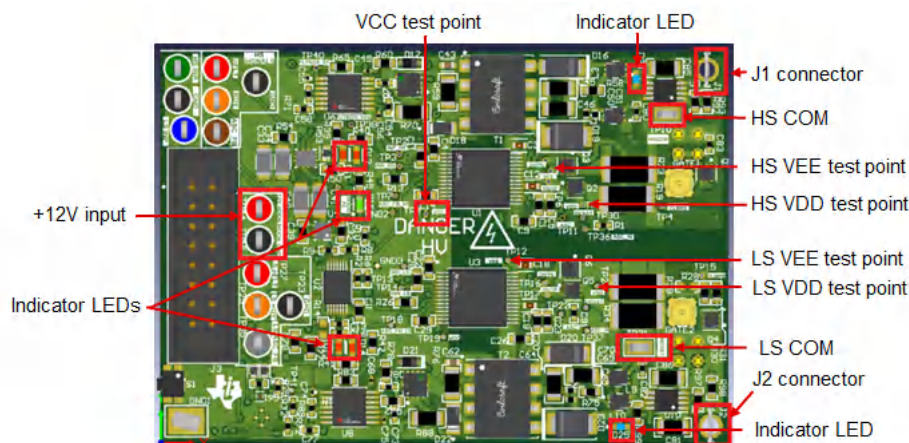

Figure 4-1. Test Point Locations for Power On Check
2. Tie J1 to HS COM, and J2 to LS COM. See Figure 4-1 for location of test points.